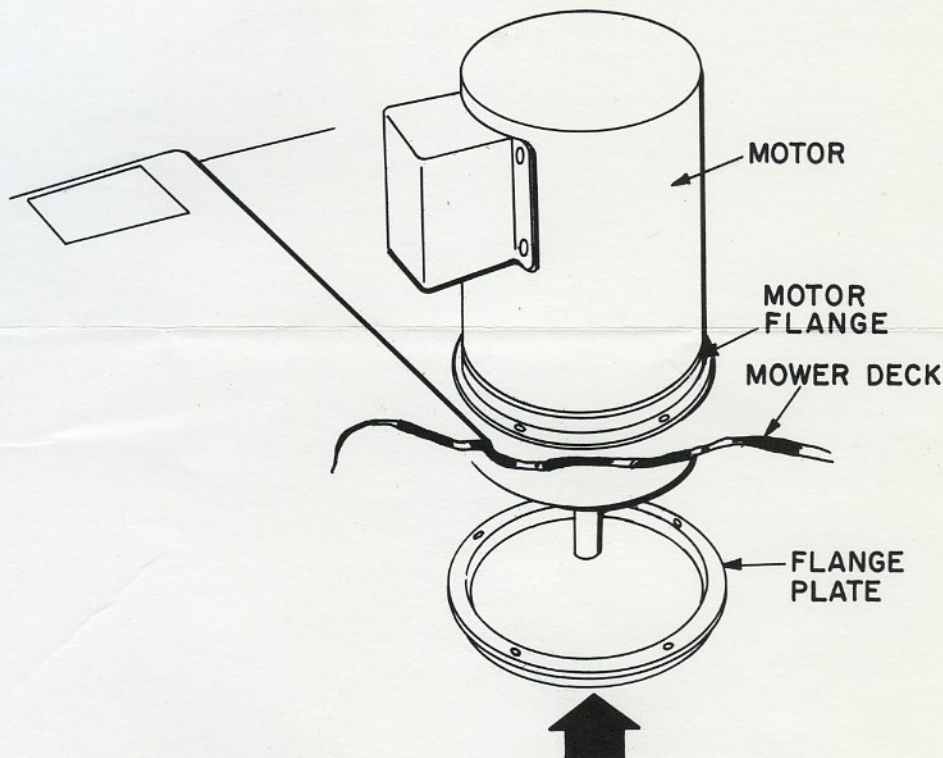

Fig. 1
4. Position the flange plate over the lower end of the motor and re-mount the motor to the deck so the flange plate is secured by the motor mounting hardware. See Fig. 1.